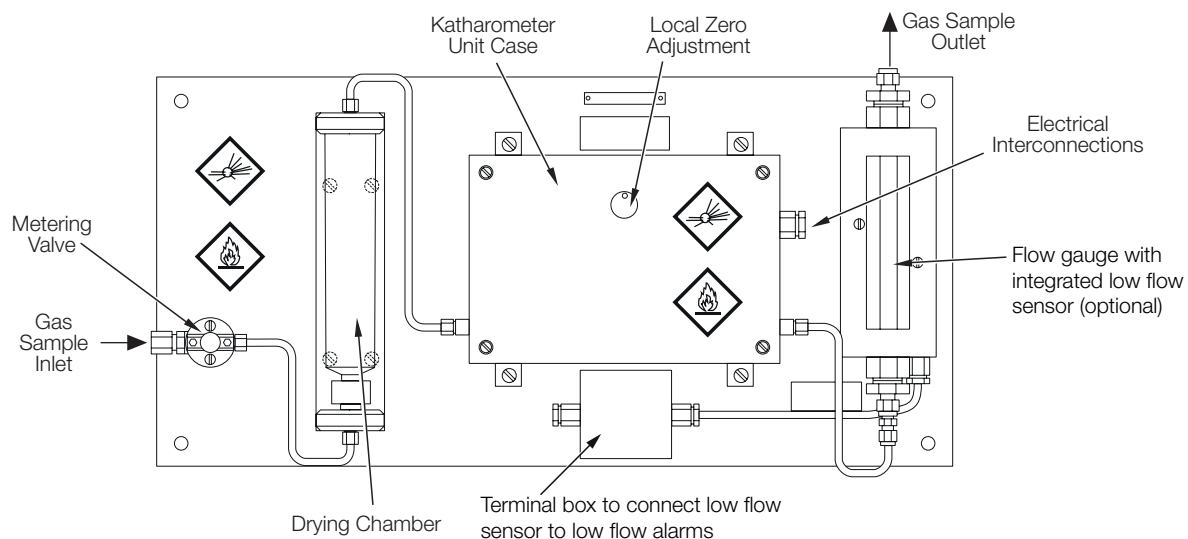

Fig. 6.1 Location of Katharometer Analyzer Panel Components
6.1 Katharometer Analyzer Panel – Filling the Drying Chamber – Fig. 6.1